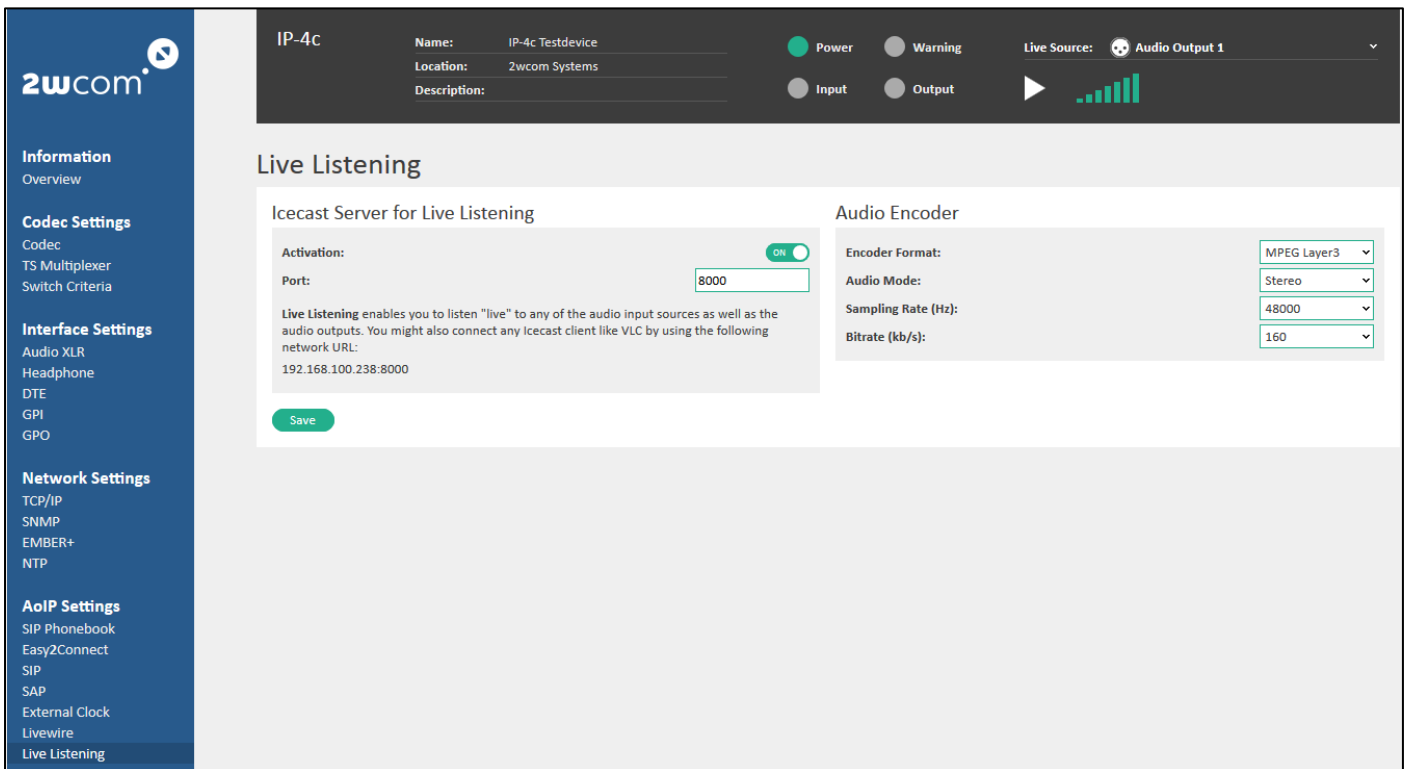

Figure 57: Live listening settings
1. To activate and to set up the live streaming, open the configuration menu under **AoIP Settings** → **Live Listening** (see Figure 57).